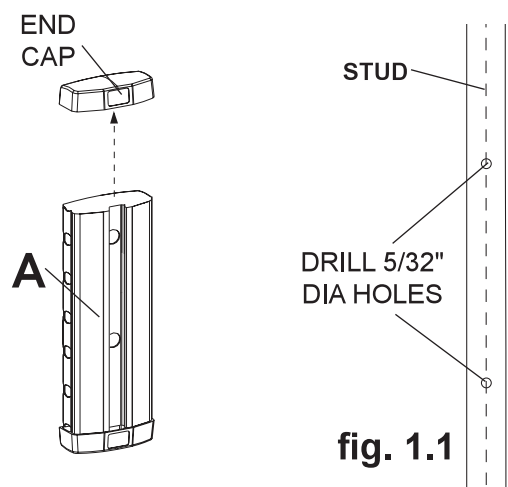
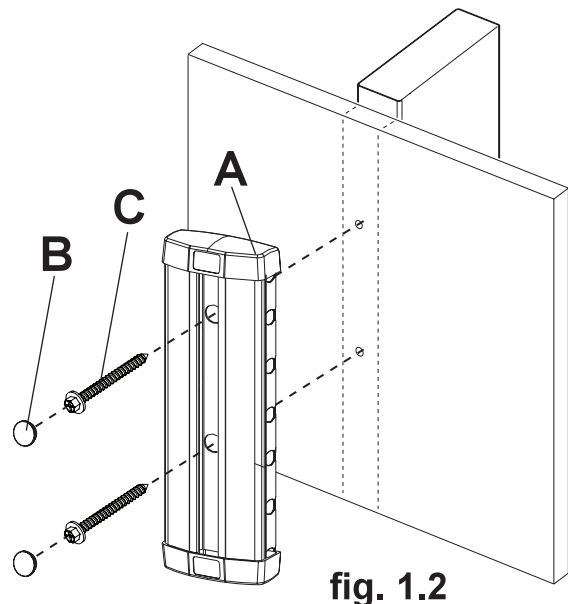

fig. 1.1
fig. 1.2
Column (A) can be mounted to a single stud. Use a stud finder to locate the edges of the stud. Use of an edge-to-edge stud finder is highly recommended. Based on their edges, draw a vertical line down the stud's center. Place column (A) on wall as a template. Level column and mark the center of the two mounting holes as shown in figure 1.1. Make sure that the center mounting holes are on the stud center lines. Drill two mounting holes 5/32" (4 mm) dia. by 2.5" (64 mm) deep. Secure column (A) with two #14 x 2.5" wood screws (C) as shown in figure 1.2.